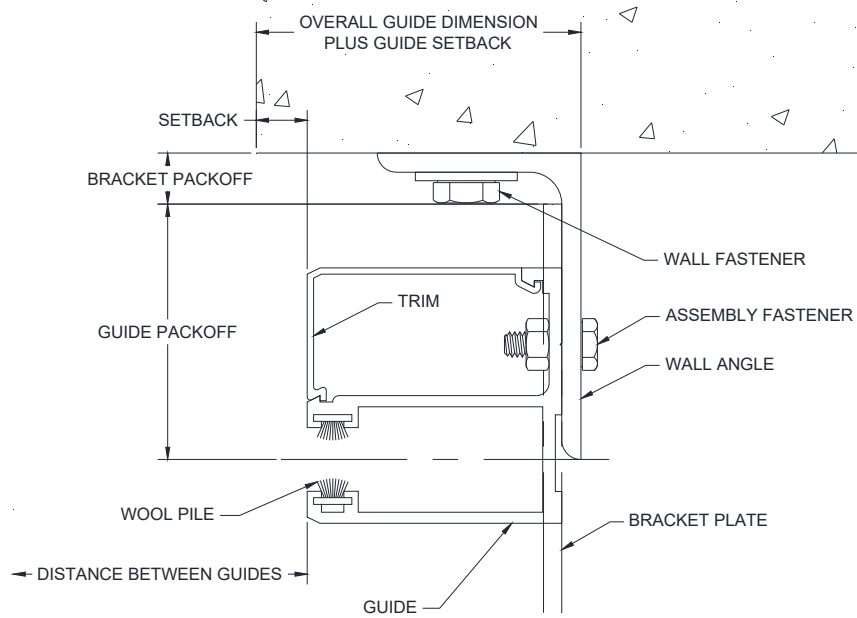

Figure 5.1 – Face of Wall “E” Guide
Face of Wall Units Mounting to Existing Wall Construction (Figures 5.1 - 5.2):
2. Measure the distance from the opening/jamb to the heel of the wall angle (on “E” guides) or the toe of the wall angle (on “Z” guides). This distance is referred to as the “*Overall Guide Dimension plus Guide Setback*”; see **Figures 5.1** and **5.2**. See the job construction drawings for the guide setback and overall guide dimensions.